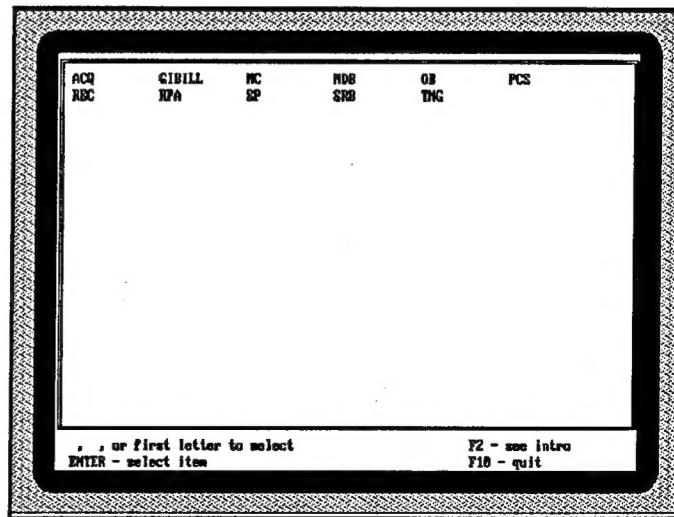

Figure 3.
**Operation:** The PMD allows you to review definitions of each of the cost elements and their underlying data. Within this option, the <F2> key displays an explanation of the PMD. The PMD menu lists each of the cost elements that AFMCOS uses for cost estimation. You can view the explanation of a cost element and a description of the variables used in the calculations by selecting a cost element from the list. To select a cost element, use the cursor keys to highlight the desired element and press the <ENTER> key. (Figure 3.) Press <F10> to return to the main menu.